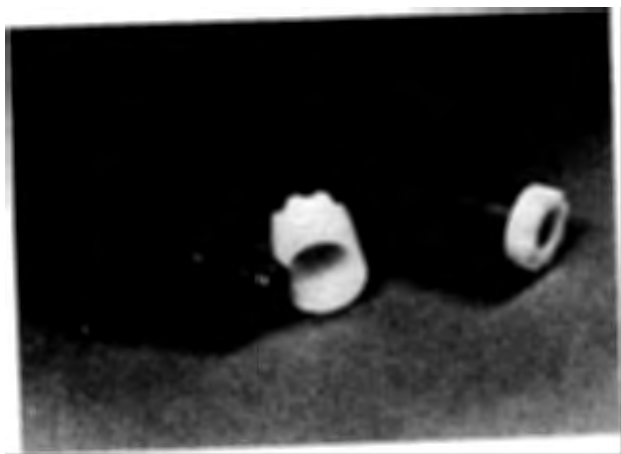

Fig. 17. Thread guard
1. Use thread guards (Fig. 17) on all threaded joint ends including the down-the-hole drill. (Thread guards may be impractical to use when tubes are stored vertically in the magazine, but some corresponding protection must be arranged.)